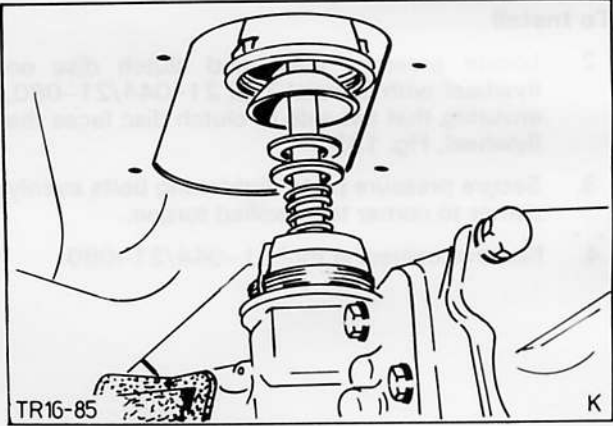

Fig. 136. Take out complete gear lever assembly
3. Remove rubber gaiter and plastic cap from underneath, take out gear lever assembly complete, Fig. 136.